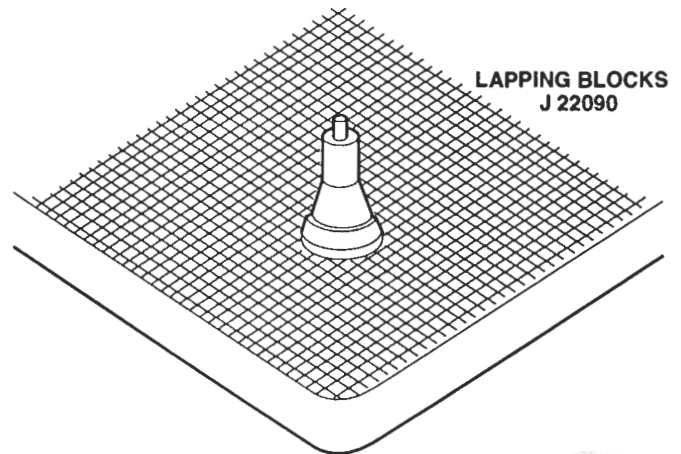

Figure 26. Lapping Spray Tip on Lapping Blocks
3. Place the part to be lapped flat on the block (Figure 26.) and, using a figure eight motion, move it back and forth across the block. Do not press on the part, but use just enough pressure to keep the part flat on the block. It is important that the part be kept flat on the block at all times.